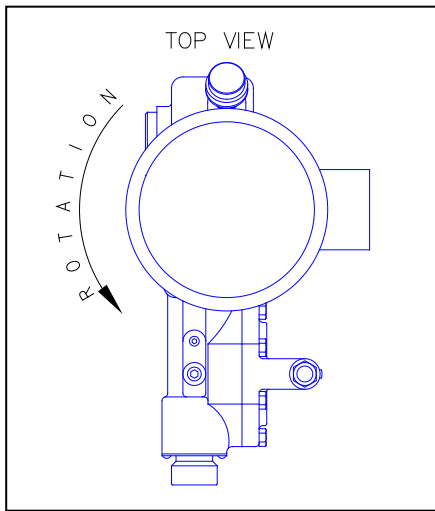

FIGURE 1
- 1.0.10 The electrical supply to the pump must match the motor name plate characteristics. The motor rotation is counter clockwise when viewed from the top of the motor, looking down on the pump. (See Figure 1).
Please note Figure 1, indicating the correct rotation. (An arrow on the gear box also indicates proper rotation.) Operation with the incorrect rotation will damage the pump and motor.